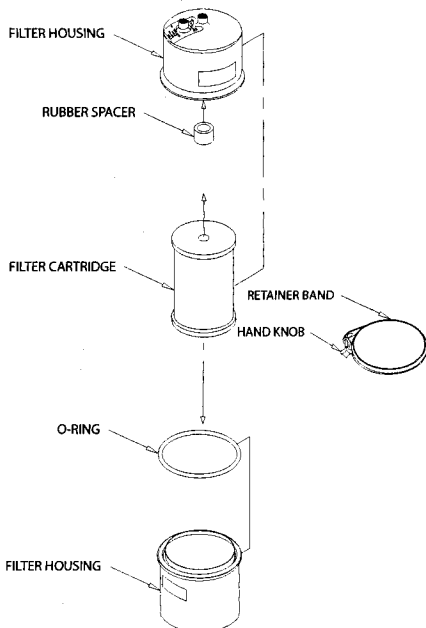

Figure 5
3. Unscrew the hand knob and remove the retainer band. Separate the filter housing and unscrew the filter cartridge (see figure 5).
5. Push the rubber spacer onto the threaded stud located inside the top half of the filter housing (see figure 5).
6. Wearing sterile gloves, remove the new filter cartridge from the sterile packaging and screw it onto the threaded stud (see figure 5). **DO NOT OVER-TIGHTEN!**
7. Lubricate the o-ring with a non-petroleum lubricant and place it on the bottom filter housing flange (see figure 5).